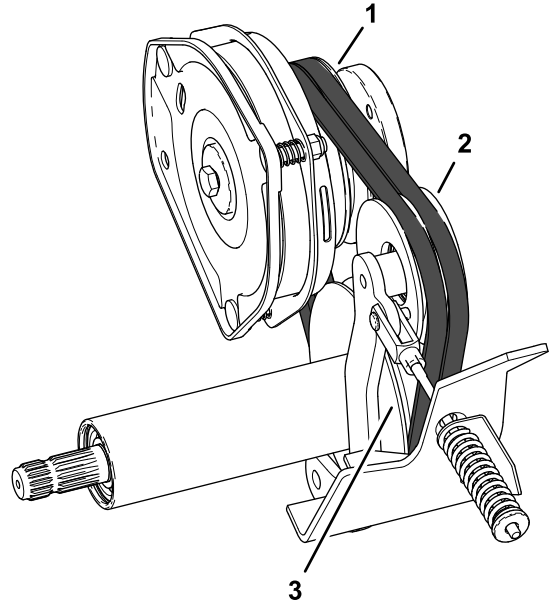

**Figure 93**
9. Rotate the idler pulley toward the engine and remove the belts from the machine (Figure 93).